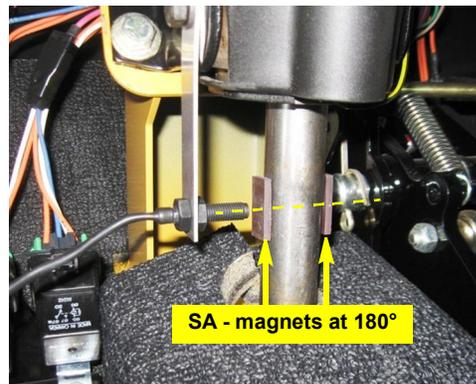

Figure 2b: Magnets installed, sensor tip adjusted
b. Release clamps **WM** and install them on the left steering cylinder as follows (Figure 2b):
Figure 2b with inset: WAS assembly mounting installed
- b. Using the two-part epoxy **SB**, attach magnets **SA** to the two cleaned areas of the steering shaft, centering them on the sensor tip (Figure 2b).
- c. Adjust the sensor face to be 1/8" to 1/4" from the magnets (Figure 2b).